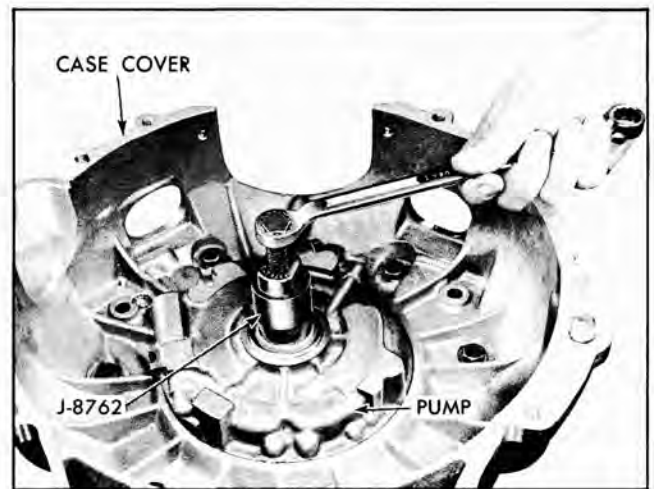

Fig. 53 Removing Front Seal Using J-8762
- a. Install front seal remover J-8762 over input shaft (Fig. 53).